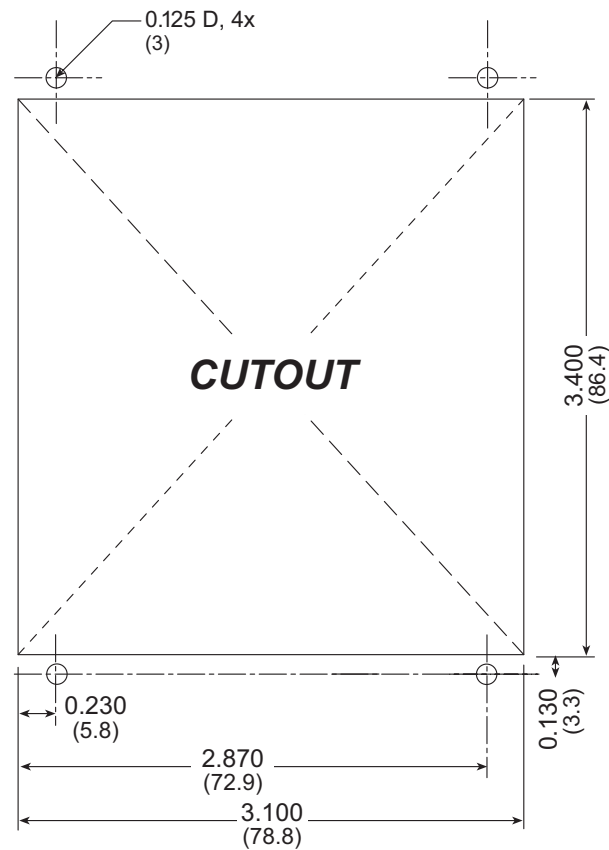

Figure C-7. Recommended Cutout Dimensions
1. Cut mounting holes in the mounting panel in accordance with the recommended dimensions in Figure C-7, then use the bezel faceplate to mount the LCD/keypad module onto the panel.